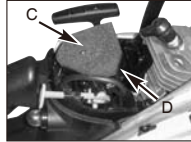

Fig. 15B
2. Lift the air filter (C) out of air-box (D) (Fig.15B).